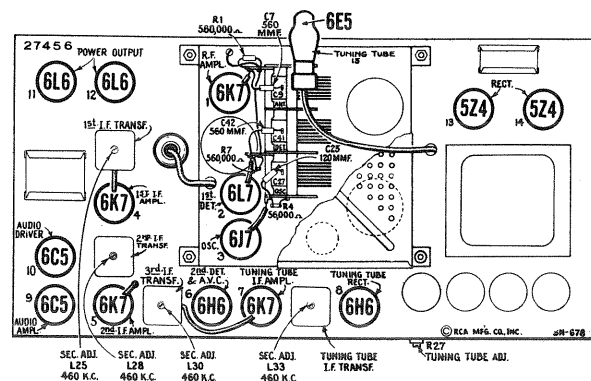

Figure 1—Radiotron and I-F Trimmer Locations
The i-f signal voltage developed in L31 (third i-f transformer) is applied to the control grid of the RCA-6K7 tuning tube i-f amplifier. The output of this tube is coupled through a sharply tuned transformer to the RCA-6H6 tuning tube rectifier. All or a portion of the voltage which develops across resistor R27 (adjustable from back of chassis, see figure 1) is transferred from the movable arm to the grid of the RCA-6E5 cathode-ray tuning tube through a suitable resistance-capacitance filter. The sharpness of this amplifier permits the receiver to be accurately tuned to the incoming carrier with the tuning tube "Magic Eye" while operating receiver with the fidelity control in extreme clockwise (broad) position.
- (c) Adjust the two magnetite core screws L30 and L29 (see figures 1 and 10) of the third i-f transformer (one on top and one on bottom) to produce maximum vertical deflection of the oscillographic image. This adjustment places the transformer in exact resonance with the 460 kc signal.
- (d) Turn tuning tube adjustment screw R27 (see figure 1) to extreme clockwise position. Adjust output of test oscillator until the width of the dark sector on the fluorescent screen in the
RCA-6E5 tuning tube is very narrow ("Magic Eye" almost closed). Adjust the two magnetite core screws L33 and L32 (one on top and one on bottom, see figures 1 and 10) of the tuning tube i-f transformer until minimum